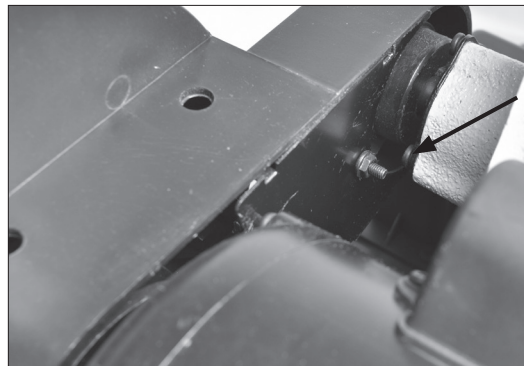

FIG. 6
15. Position the metal plate inside of the belt guard. The bent tabs will keep it in place, then secure it with the long M4 Phillips head Screw (#36) and hex Nut (#40). FIG. 6.